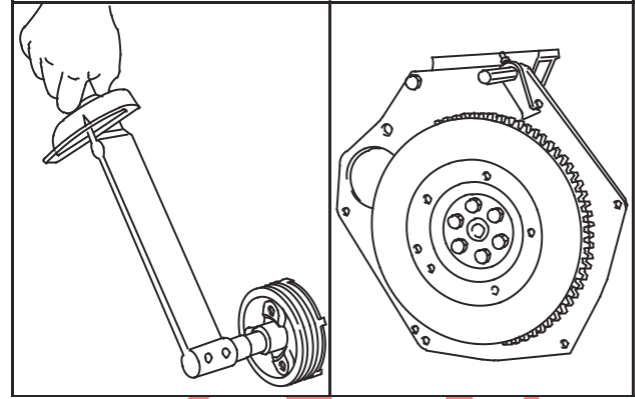

Fig. 21 – Installing Crankshaft Pulley
8. Install crankshaft pulley with timing mark at 12 o'clock position (#1 cylinder), Fig. 21.